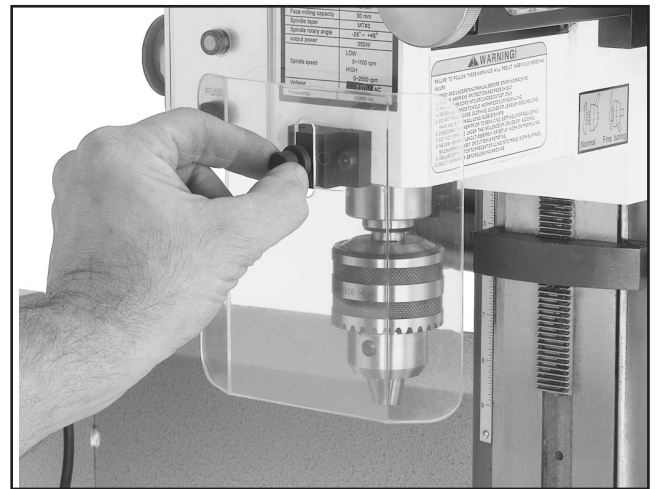

Figure 3. Attaching eyeshield to the mill/drill head.
1. Attach the eyeshield to the mill/drill with the knurled knob as shown in **Figure 3.** *Note- the eyeshield provides the best coverage when it is positioned down as it can go.*